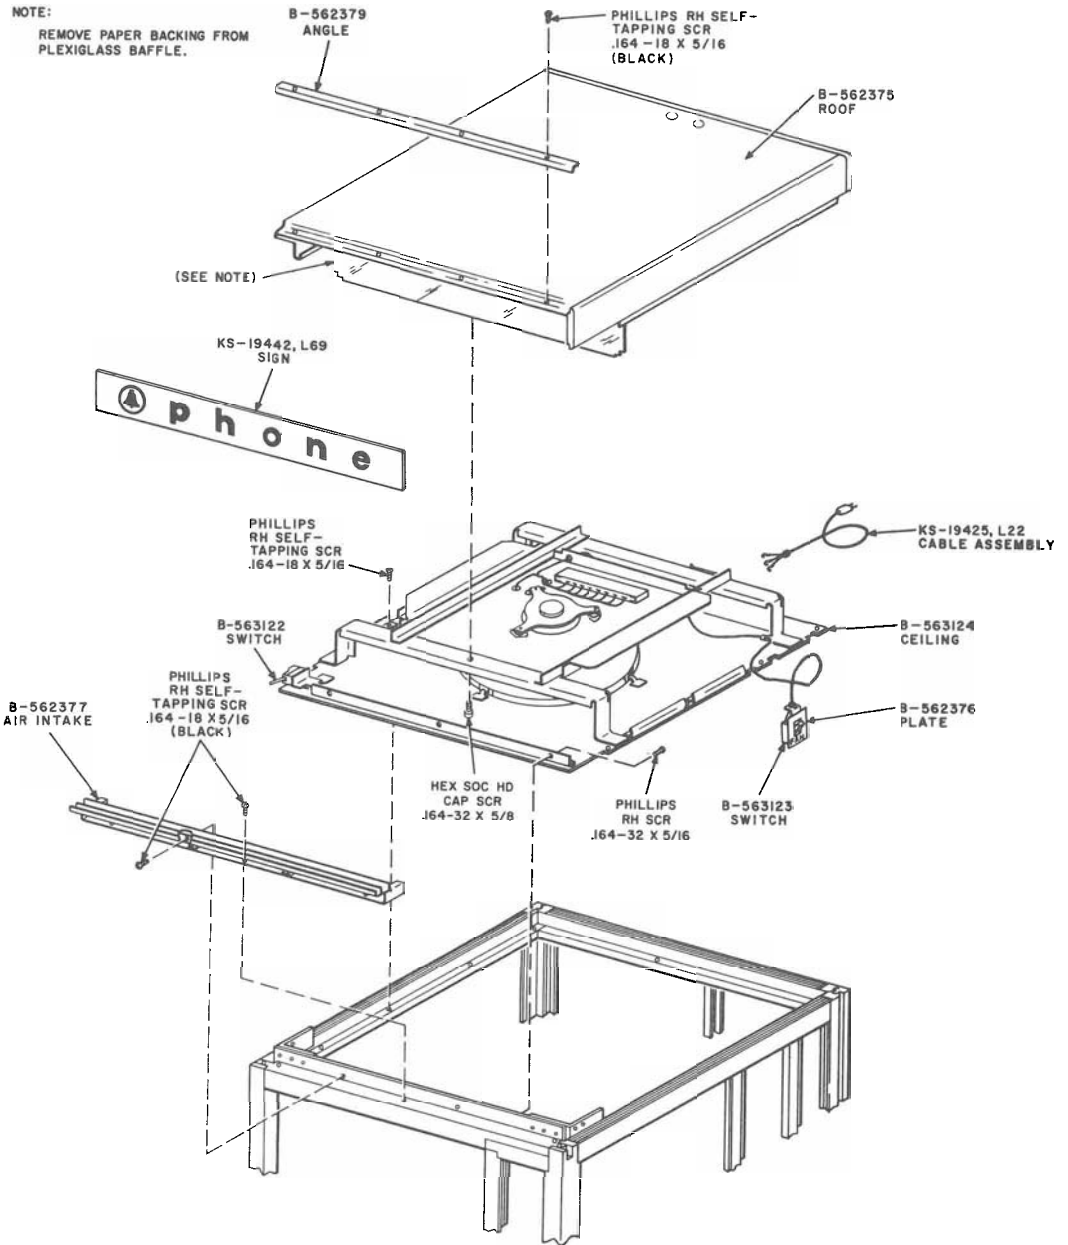

Fig. 21—Installation of Ceiling and Roof Assembly
- 4.12** Determine that the door operated switch (B-563122, Fig. 21) located in the left-front of the ceiling, properly actuates the blower unit. Access to the switch can be gained by removing the dome assembly.
- 4.16** Remove four .164-18 by 5/16 painted Phillips round head self-tapping screws which secure B-562379 angle to the roof (Fig. 21).
4.19 If it becomes necessary to remove the roof (Fig. 21):